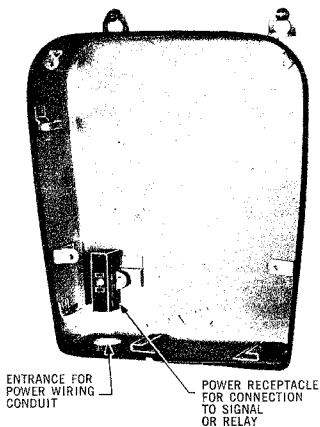

Fig. 1 — NS-16301-Type Back Box, Conduit Installation
3.05 Where a conduit installation is involved, the back box should be installed so that the customer may have the commercial power connected (see Fig. 1). Install signal after power connection has been made.